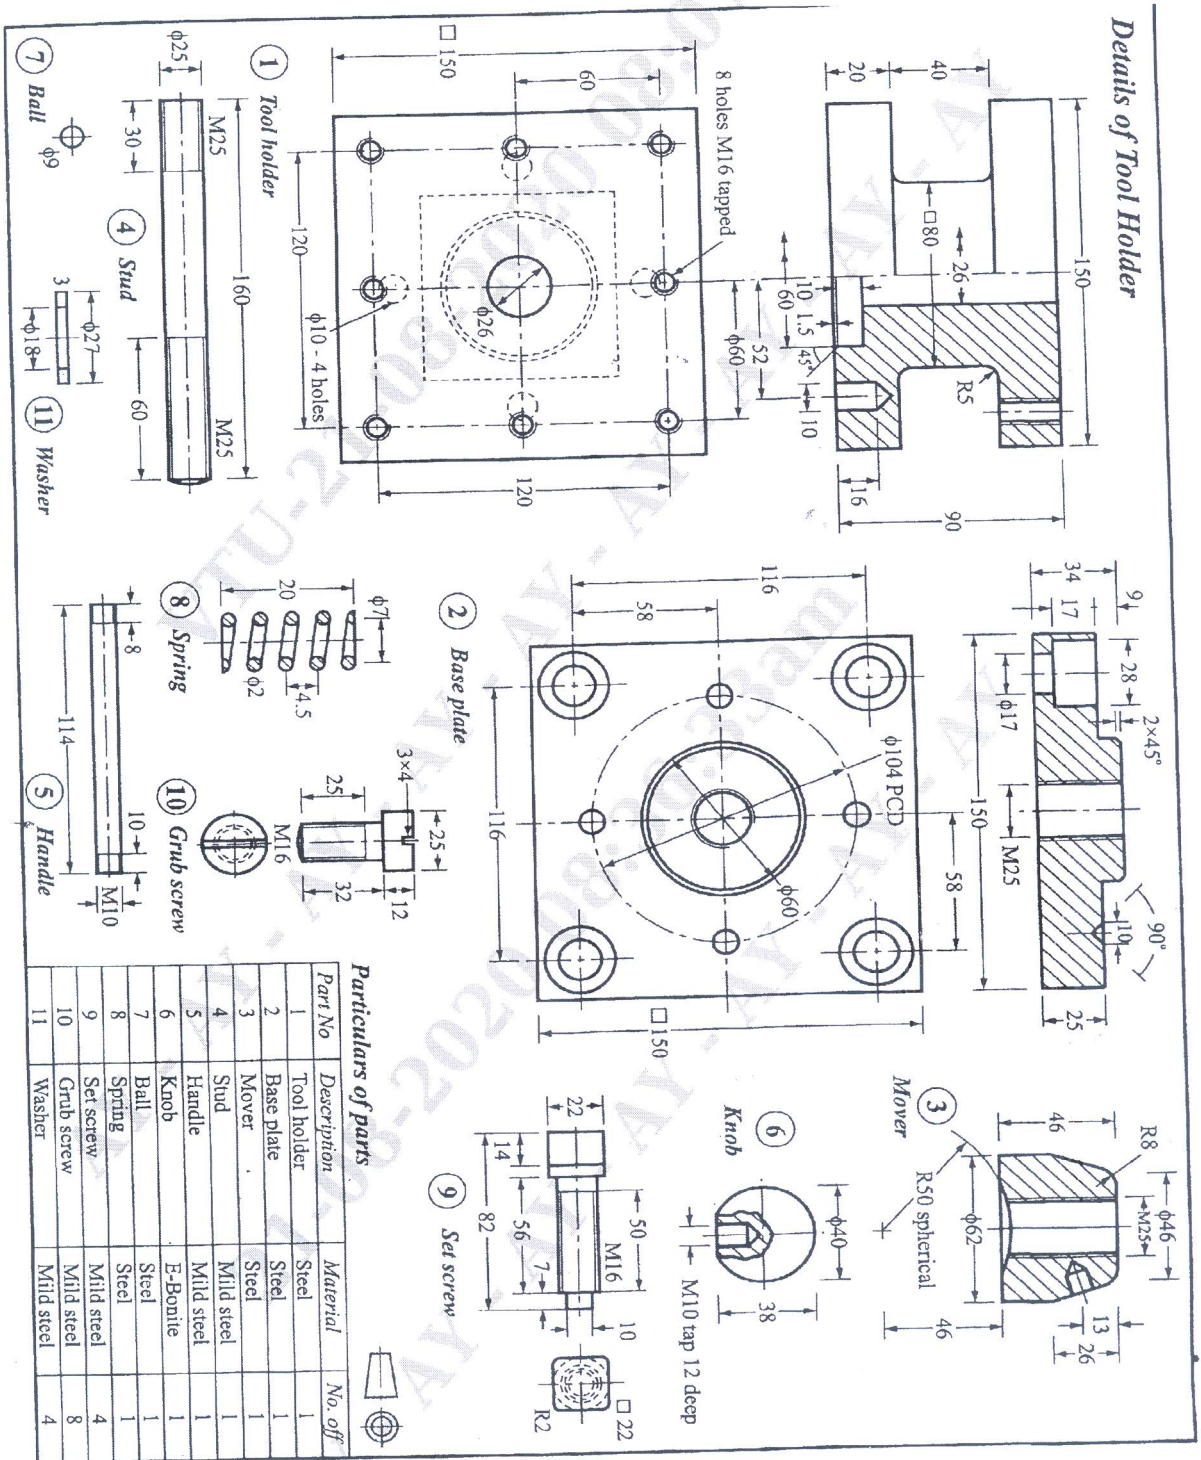

Figure 2 : Details of a “lathe square tool post”
- Q.No.5** Figure 2 shows the details of a "LATHE SQUARE TOOL POST". Assemble the parts and show the following views.